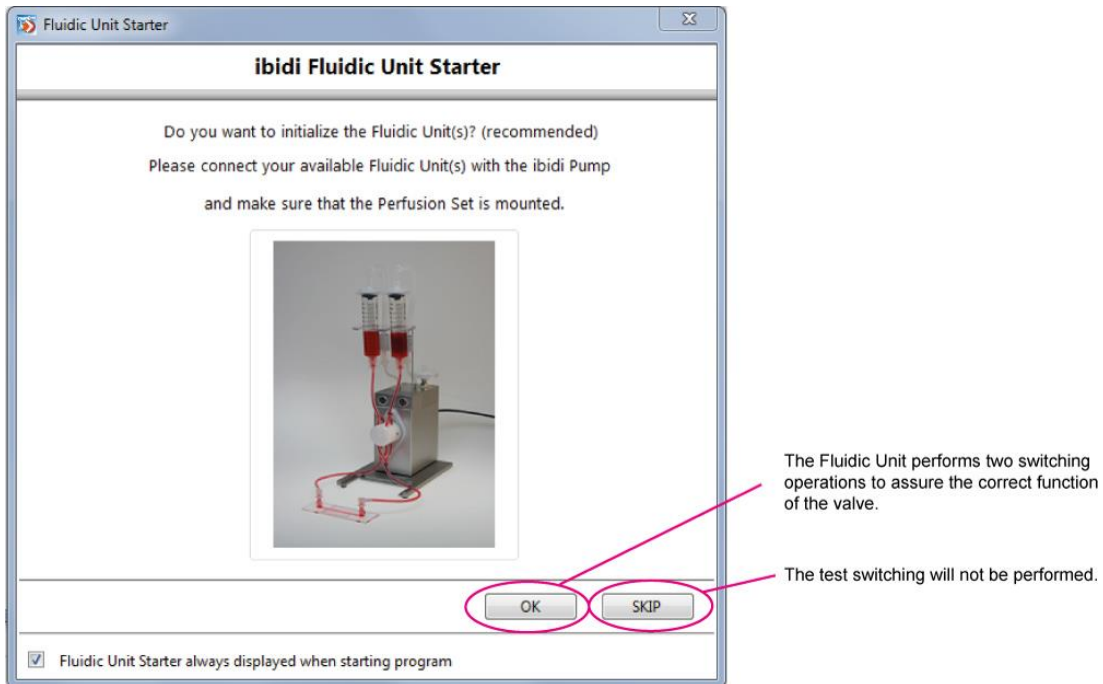

Figure 1 Fluidic Unit Starter window
- Choose one of the options in the Fluidic Unit starter window (shown in Figure 1).